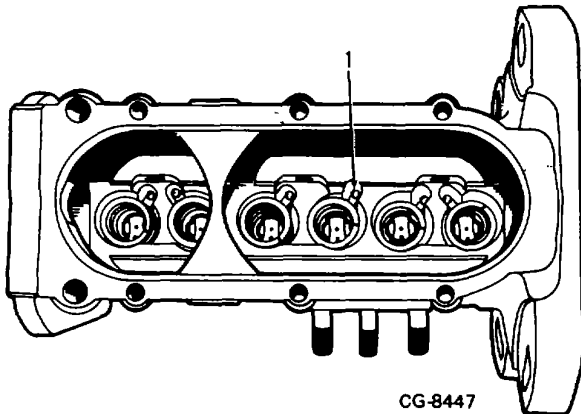

Figure 4. Control Sleeve Ball Positioning
11. Insert each control sleeve after positioning rack so that the control sleeve ball will fall into the slot of the control rack (Figure 4).